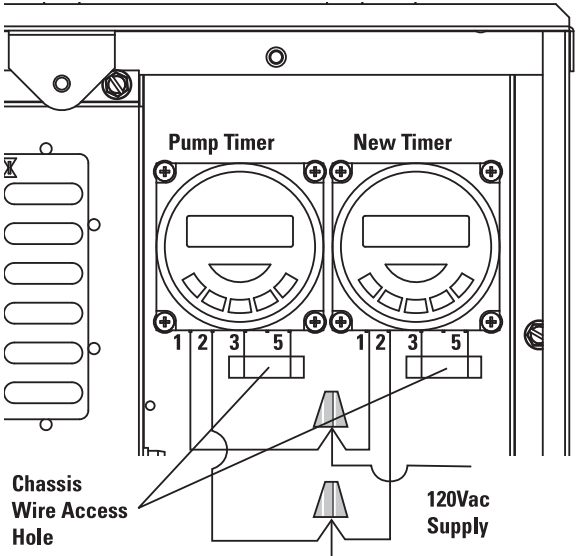

Figure 5-8
- 8. Supply 120VAC to Terminals 1 and 2 of the pump timer. To simplify installation, tap into the power supplying the first timer. (See Figure 5-8.)